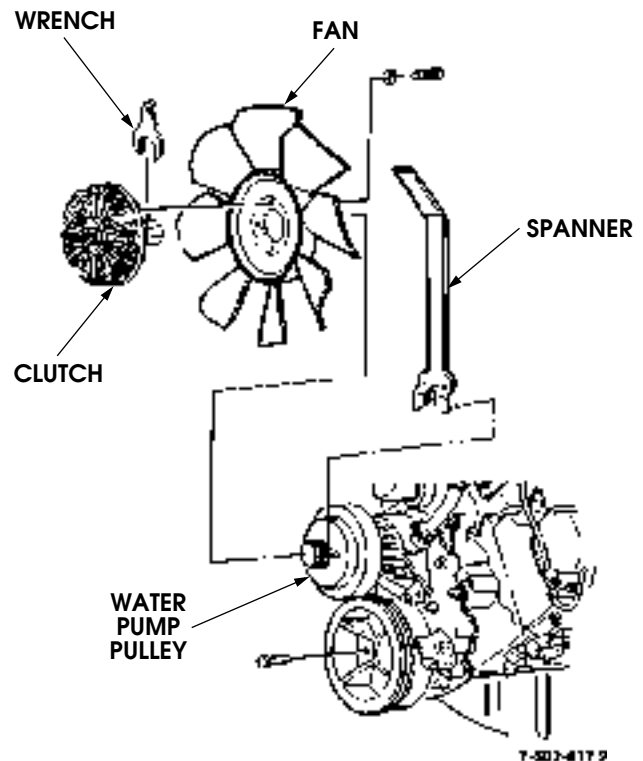

Figure 4-34: Fan and Clutch Assembly
1. Insert spanner J-41240-1 in holes in water pump pulley (Figure 4-34).
7. Install fan and clutch assembly on water pump shaft (Figure 4-34).